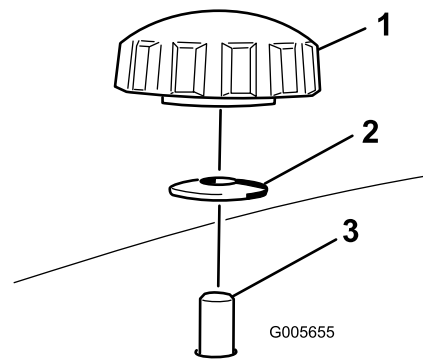
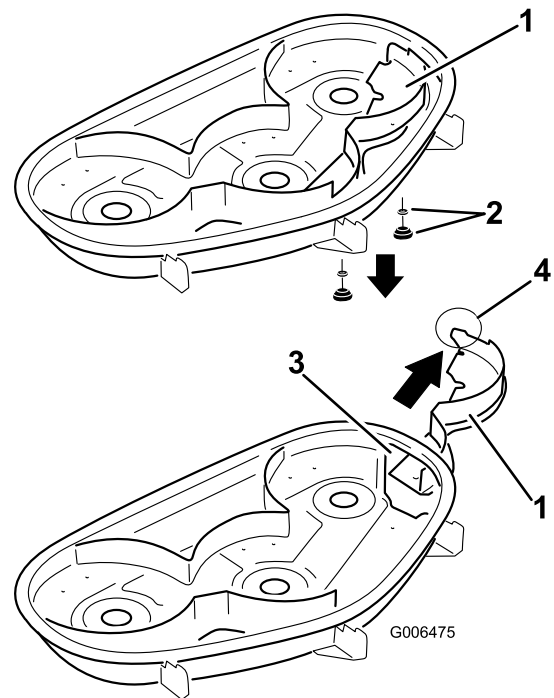

Figure 21
Figure 22
4. Remove the 2 knobs and curved washers that secure the right baffle to the mower as shown in Figure 21.
5. Remove the right baffle and lower the grass deflector over the discharge opening as shown in Figure 22 and Figure 21.
4. Slide the right baffle through the discharge opening and secure it using 2 knobs and curved washers (cupped side facing the mower) as shown in Figure 21 and Figure 22.